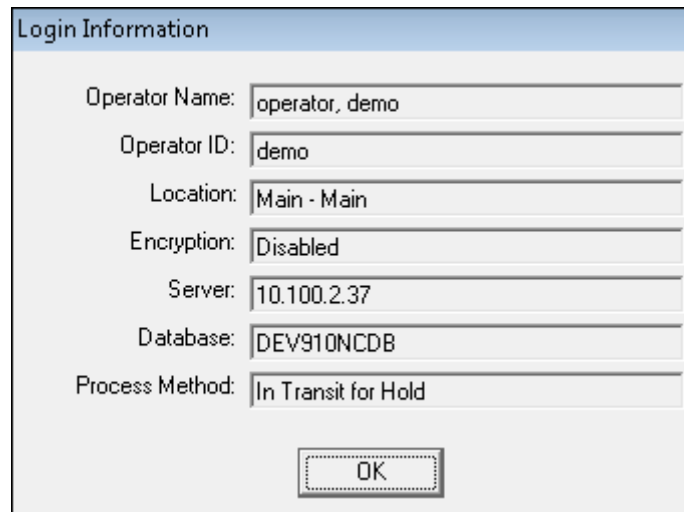

Figure 1-3. Select Call Slip Group
3. (Optional) Select the **Call Slip Group**, and click **OK**. See Figure 1-3.